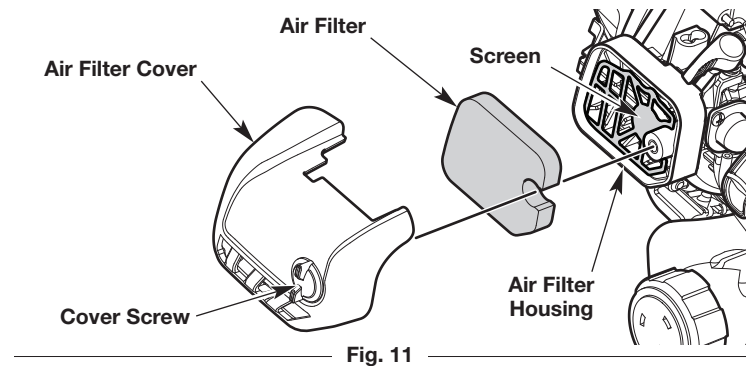

Fig. 11
1. Open the air filter cover by unscrewing the cover screw (Fig. 11).
2. Remove the air filter from the air filter housing (Fig. 11).
6. Reinstall the air filter in the air filter housing (Fig. 11).